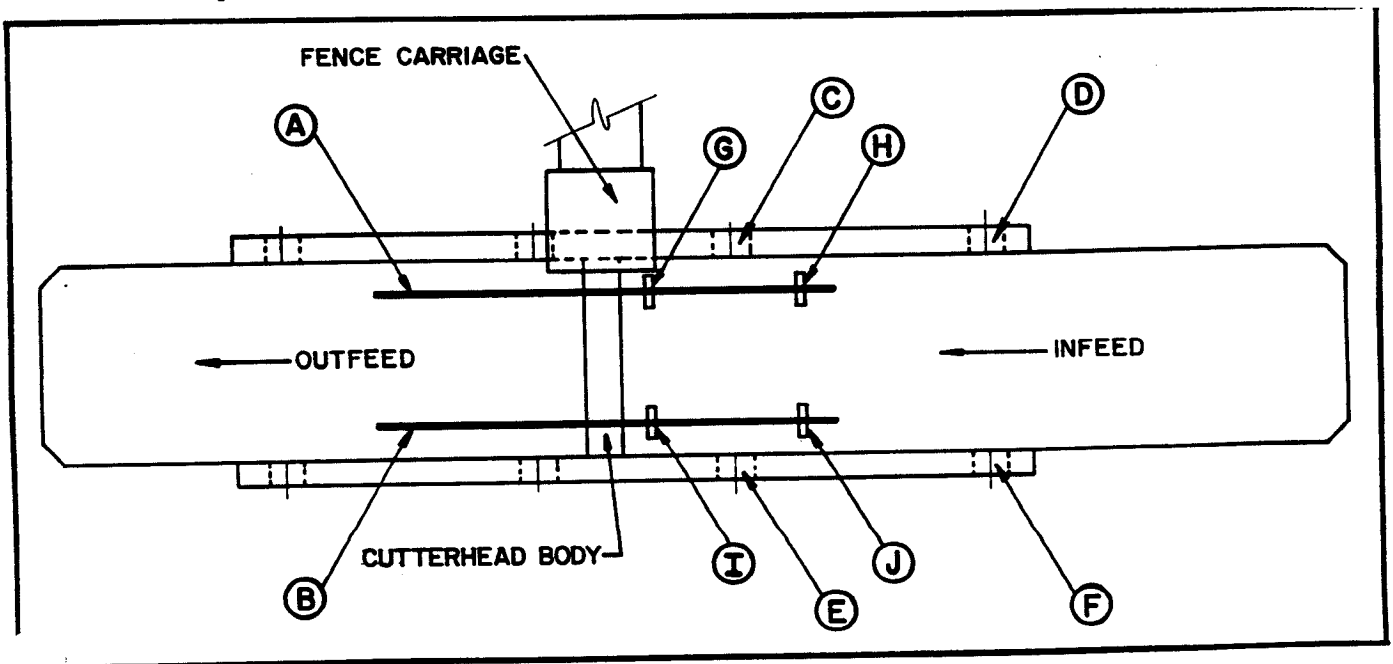

Figure 3-4
11. Place the straight edge across the outfeed table and onto the infeed table as shown in (A, Figure 3-4). While holding down firmly on the outfeed end of the straight edge, place a .010" feeler gauge under the straight edge at location (G, Figure 3-4). Raise the infeed table up until the .010" feeler gauge just touches the straight edge and tighten the infeed table lock knob.
12. While holding down firmly on the outfeed end of the straight edge, insert a .010" feeler gauge at location (H, Figure 3-4). If adjustment is needed, locate bushing (D, Figure 3-4) and adjust in same manner as step 3.1.8.
13. Place the straight edge across the outfeed table and onto the infeed table as shown in (B, Figure 3-4). While holding down firmly on the outfeed end of the straight edge, insert a .010" feeler gauge at location (I, Figure 3-4). If adjustment is needed, locate bushing (E, Figure 3-4) and adjust bushing in the same manner as in step 3.1.8.
14. While holding firmly down on the outfeed side of the straight edge, insert a .010" feeler gage at location (J, Figure 3-4). If adjustment is needed, locate the table leveling bushing (F, Figure 3-4). Remove pointer and adjust bushing in the same manner as in step 3.1.8.